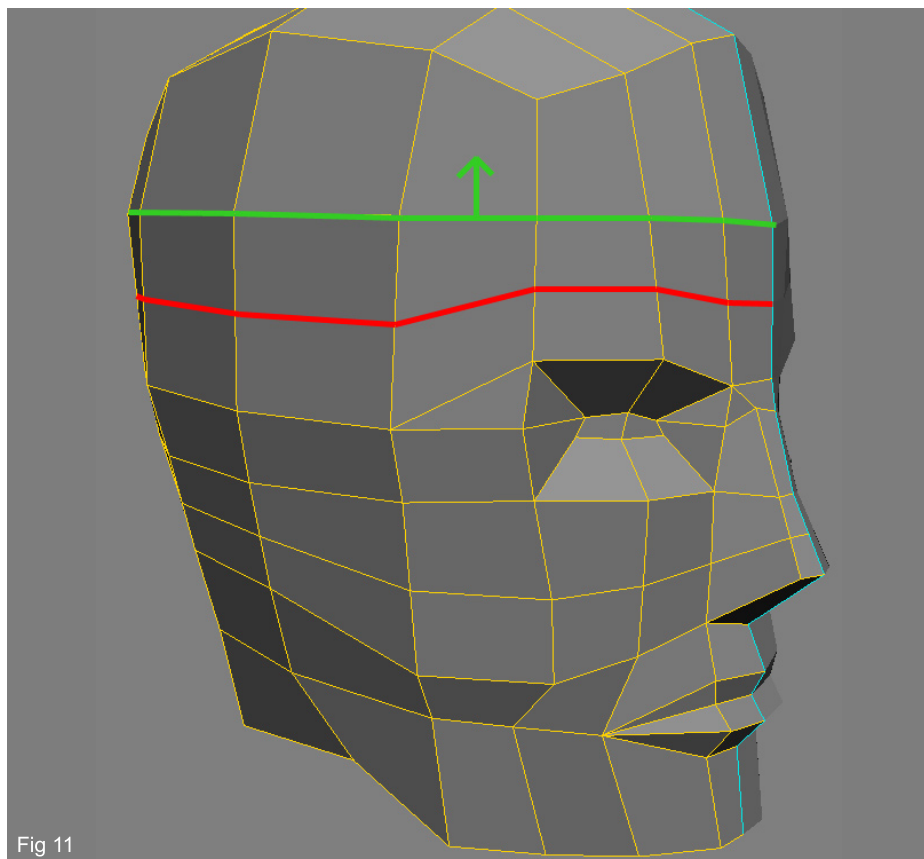

Fig 11
11. Let's add some more detail to the head. select the edgeloop marked in green in Fig11 and move it upwawrds a bit. This is to make room for a new cut that we need to add all around the head (marked in red in Fig11). Select the edge ring and Subdivide it.